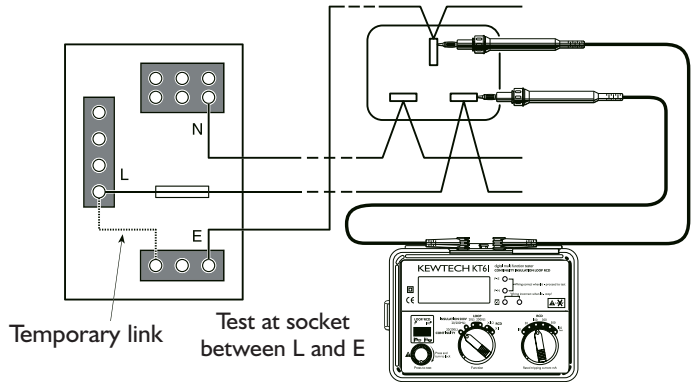

Fig 3
- 3 Connect the test leads to the circuit whose resistance is required (see Fig 3) **having first made sure that the circuit is not live. Note that the live circuit warning lamp will illuminate if the circuit is live - but check first anyway!**